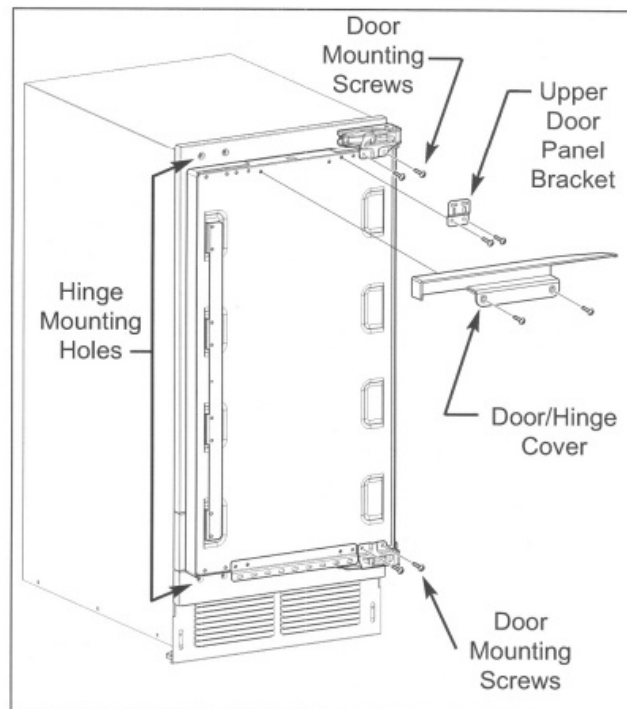

Figure 2-7.
2. Remove door/hinge cover (top hinge-RH) from top of door by extracting the two mounting screws from face of door. (See Figure 2-7)
3. Remove door from hinges by extracting the four door mounting screws, two at bottom hinge, two at top hinge. (See Figure 2-7)
5. Extract the four filler screws from opposite (left) hinge mounting holes in cabinet (See Figure 2-7) and insert them into right-hand hinge mounting holes of cabinet.
8. Extract two screws which secure upper door panel mount bracket to top right of door, then reattach the bracket to top left of door utilizing left-hand mounting holes. (See Figure 2-7)